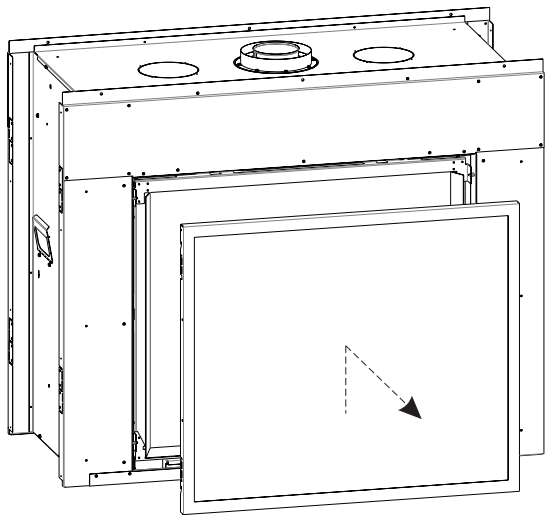

Figure 90
2. Use the Glass Latch Tool to grip the latch bar and pry it over the Glass Frame hook flanges. Tilt the Glass Frame towards you and pull upwards to remove it from the unit. **See Figures 90 and 91.**